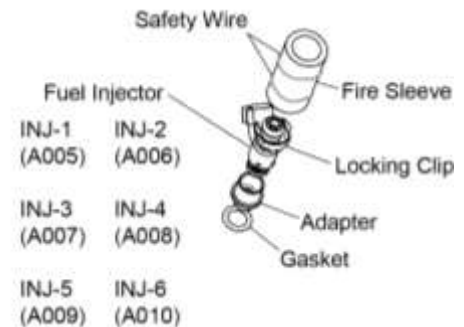

Figure 9
- (8) Cut and remove the safety wire from the fire sleeve on the fuel injector (Figure 9)
- (9) Move the locking clip to unlock each fuel injector from the fuel injector rail.
- (10) Remove the fuel injector rail from the fuel injectors.
- (11) Remove the three fuel injectors from the fuel injector adapters.
- (12) Remove the fuel collection container and dispose of the fuel in accordance with environmental regulations.
- (2) Install the new lubricated O-ring on each fuel injector.
- (3) Install the three fuel injectors (with the fire sleeve installed on the injectors) on the fuel injector rail.
- (4) Make sure the fuel injectors are oriented correctly on the fuel rail. Move the locking clip to lock each fuel injector to the fuel injector rail.
- (5) Safety wire the fire sleeve (Figure 9).
- (1) Remove the fuel injector rail and the three fuel injectors per instructions in the "Fuel Injector Rail Assembly Removal" section of this chapter.
- (2) Carefully remove the safety wire from the fire sleeve of the fuel injector (Figure 9) to prevent damage to the fire sleeve.
- (3) Remove the fire sleeve from the fuel injector to be replaced.
- (4) Discard the fuel injector to be replaced.
- (5) Remove the fuel collection container and dispose of the fuel in accordance with environmental regulations.
- (1) Remove the fuel injector rail per instructions in the “Fuel Injector Rail Assembly Removal” section of this chapter.
- (2) Remove the fuel injector adapter (Figure 9) to be replaced from the engine cylinder.
- (3) Discard the fuel injector adapter and the annular gasket.